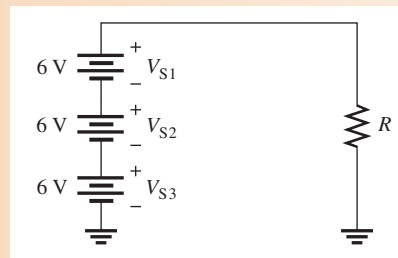

FIGURE 25
What is the total source voltage ( $V_{S(\text{tot})}$ ) in Figure 25?
**Related Problem** If the battery  $V_{S3}$  in Figure 25 is accidentally installed backwards, what is the total voltage?